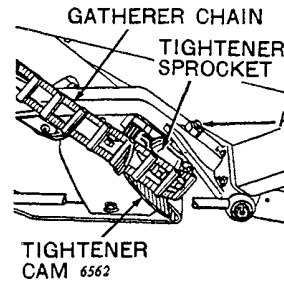

Figure 6
**Tension** (See Figure 6) The gatherer chains should be tightened so they will have a 1-inch deflection when pulled away from guide plates. Too loose or too tight chains will cause excessive wear of guide plates.